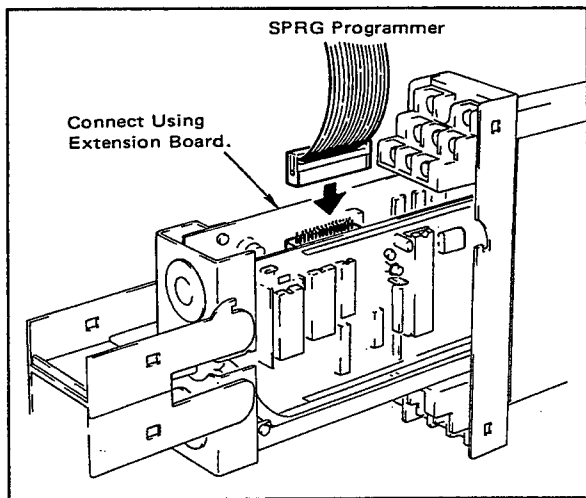

Figure 6-1. Connecting the Programmer.
- (1) Remove the SPLR (or use an extension board to keep the unit on-line), and connect the SPRG programmer by referring to the procedure described in 3-2-2 of SPRG programmer instruction manual IM 1B4W1-01E (see Figure 6-1).
- (2) After turning on the power switch, set the programmer to the program mode, and press program transfer key **XFR**. When the FAIL indicator lights, check that the user program (contents of User's ROM) is normal using **Δ** **▽** key. If the keys **XFR**, **Δ** and **▽** do not operate normally, this is an indication that the microprocessor may have failed.
- (3) Now, set the programmer to the test-run mode. The cause of the failure can now be indicated numerically by pressing flag register key **FL** **n**. When the ALM indicator lights (outside input signal or computation limits), examine the program flag while checking a known input signal with the program.
- (1) Connect the SPRG programmer to the SPLR according to the procedure described in 3-2-2 of SPRG instruction manual IM 1B4W1-01E (see Figure 6-1).